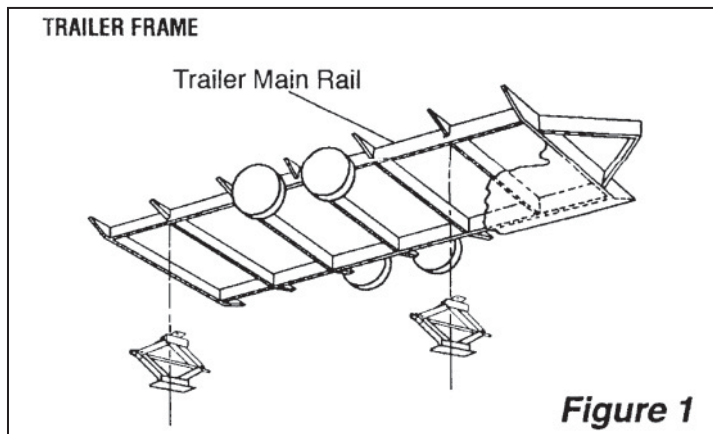

Figure 1
2. Position each Husky Scissor Jack under the trailer frame where it will be installed. For proper placement of the jacks, refer to **Figure 1**, and follow these guidelines: